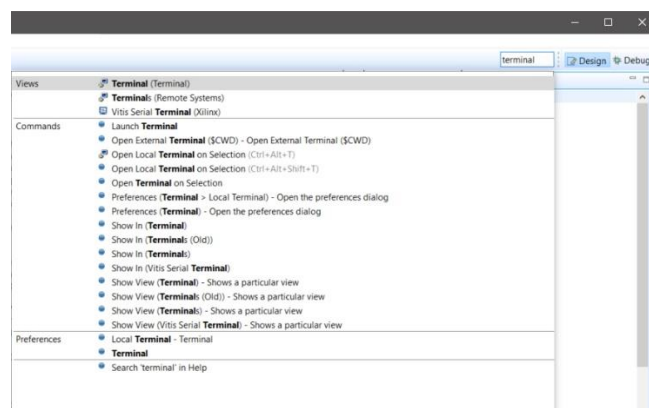

Figure 33
1. To open the **Vitis Serial Terminal** click on **Quick Access** near the top right corner of the Vitis workspace and type **terminal** (Figure 33)